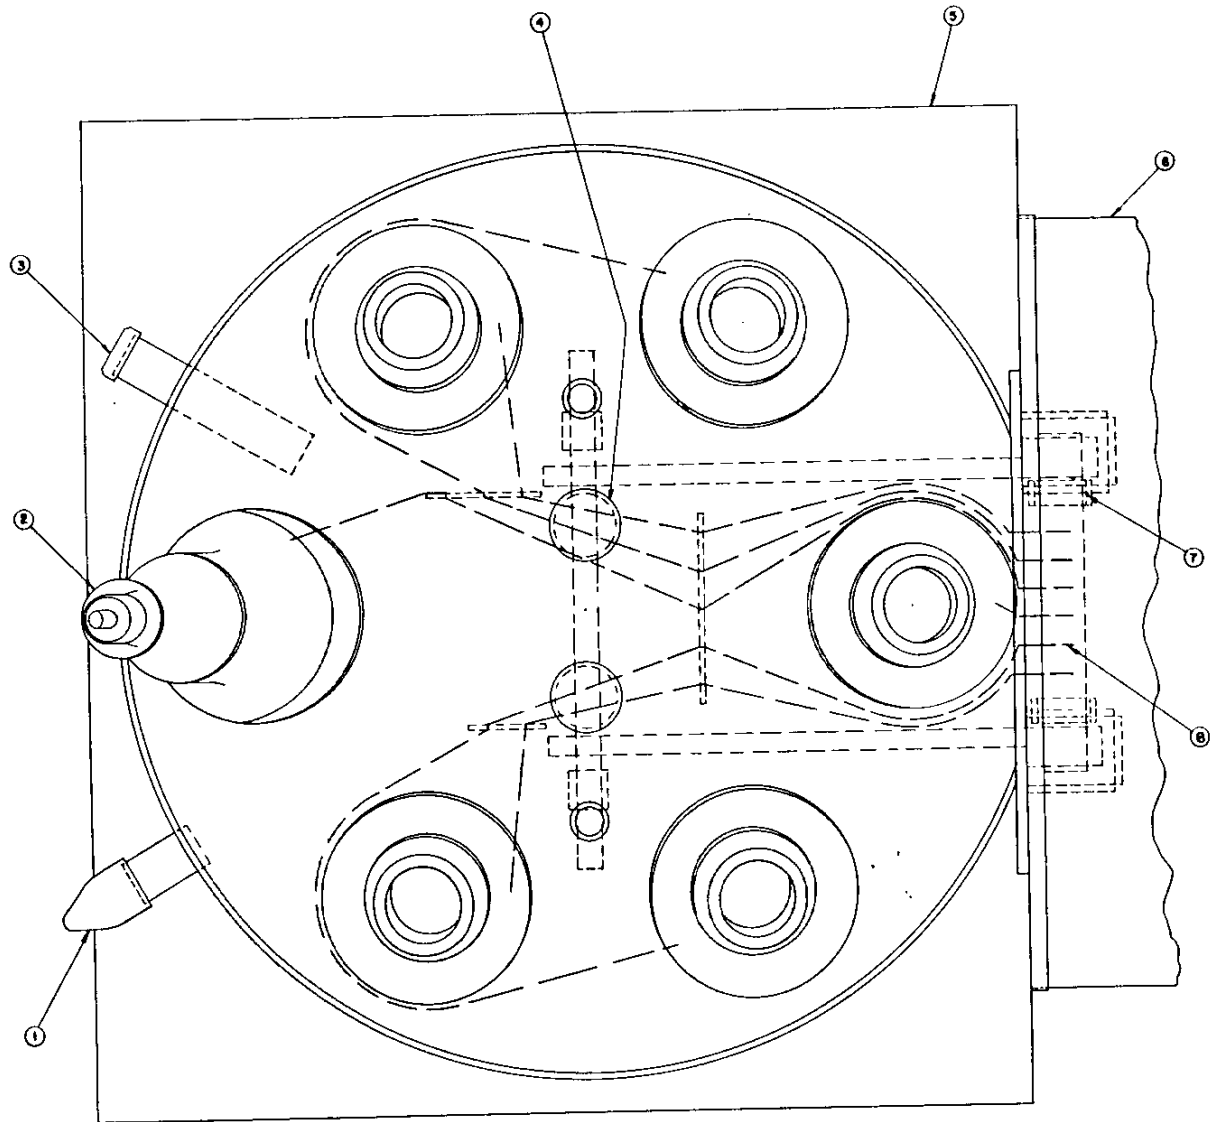

Fig. 3
The top frame supports the bushings, bushing current transformers, breaker mechanism and the removable tank. Figure 3 is a plan view of the dome and shows the relative position of bushing current transformers and bushing current transformer leads with respect to the mechanism. The transformer leads are brought out to the terminal blocks in the housing, making them easily accessible for connecting to meters and protective devices.
Gases generated during circuit interruption are separated from the oil and vented to the outside by means of a pebble filled chamber Fig. 6 located in the top frame Fig. 3 - (1). There are no adjustments and no maintenance required unless the pebbles should be removed and cleaned. The elbow (4) is removeable for this purpose.